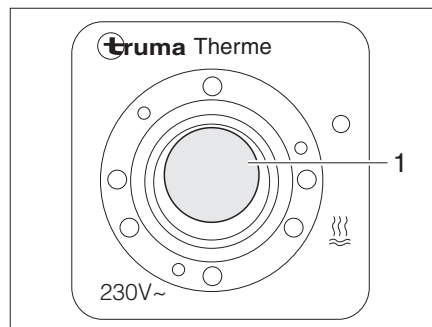

Fig. 122 Operating switch for water heater
The electrical mode of operation is activated using the operating switch (Fig. 122). The indicator lamp (Fig. 122,1) on the switch must light up.
- Switch on the operating switch (Fig. 122). Indicator lamp (Fig. 122,1) on the switch lights up.
- Switch off the operating switch (Fig. 122). The indicator lamp (Fig. 122,1) on the switch goes off.
- Switch off the operating switch (Fig. 122). The indicator lamp (Fig. 122,1) in the switch is not on.